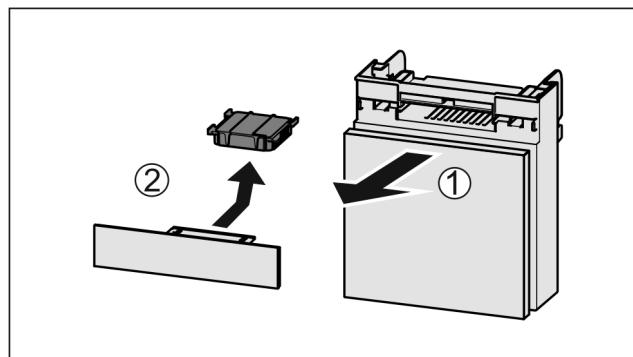

Fig. 87
► Pull out the compartment Fig. 87 (1).
► Remove the carbon filter Fig. 87 (2).